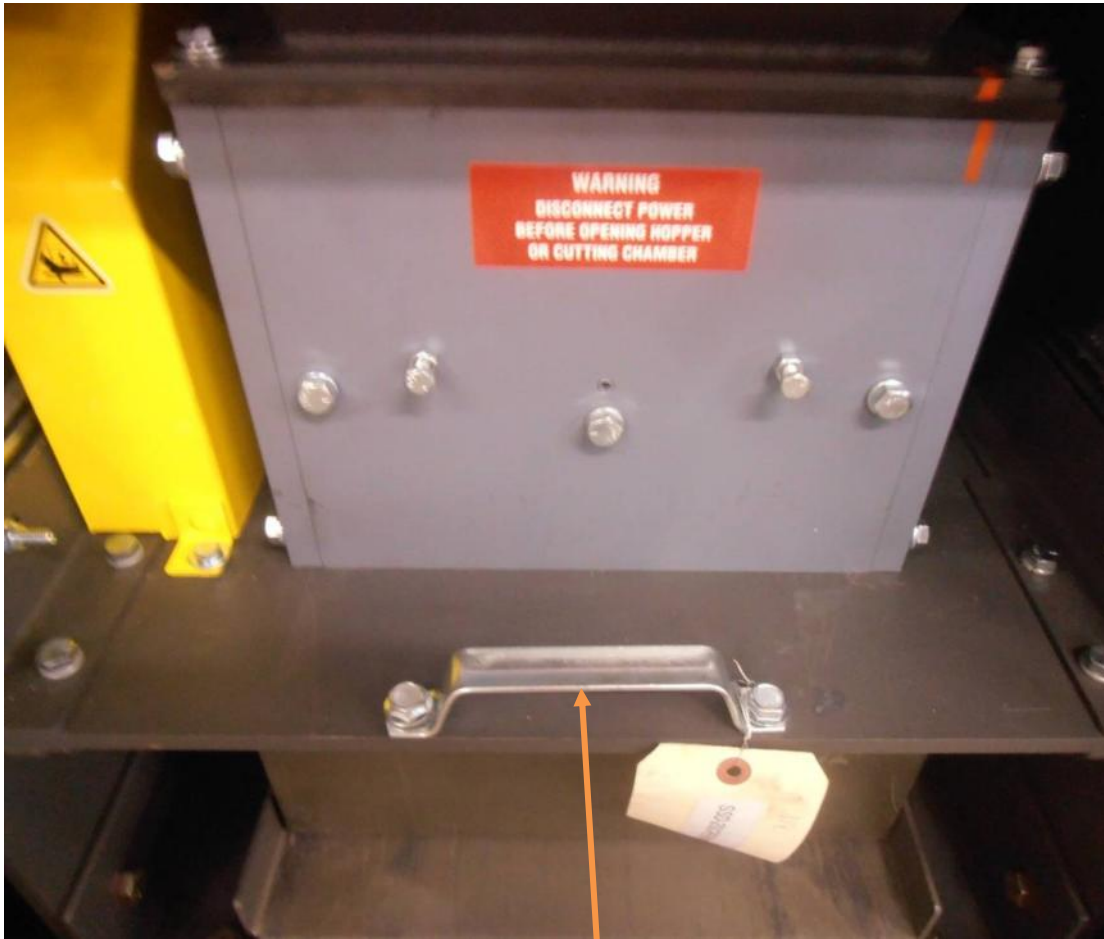

Figure 6 – Pull handle
4. Pull cutting chamber drawer all the way out (See figure 6)